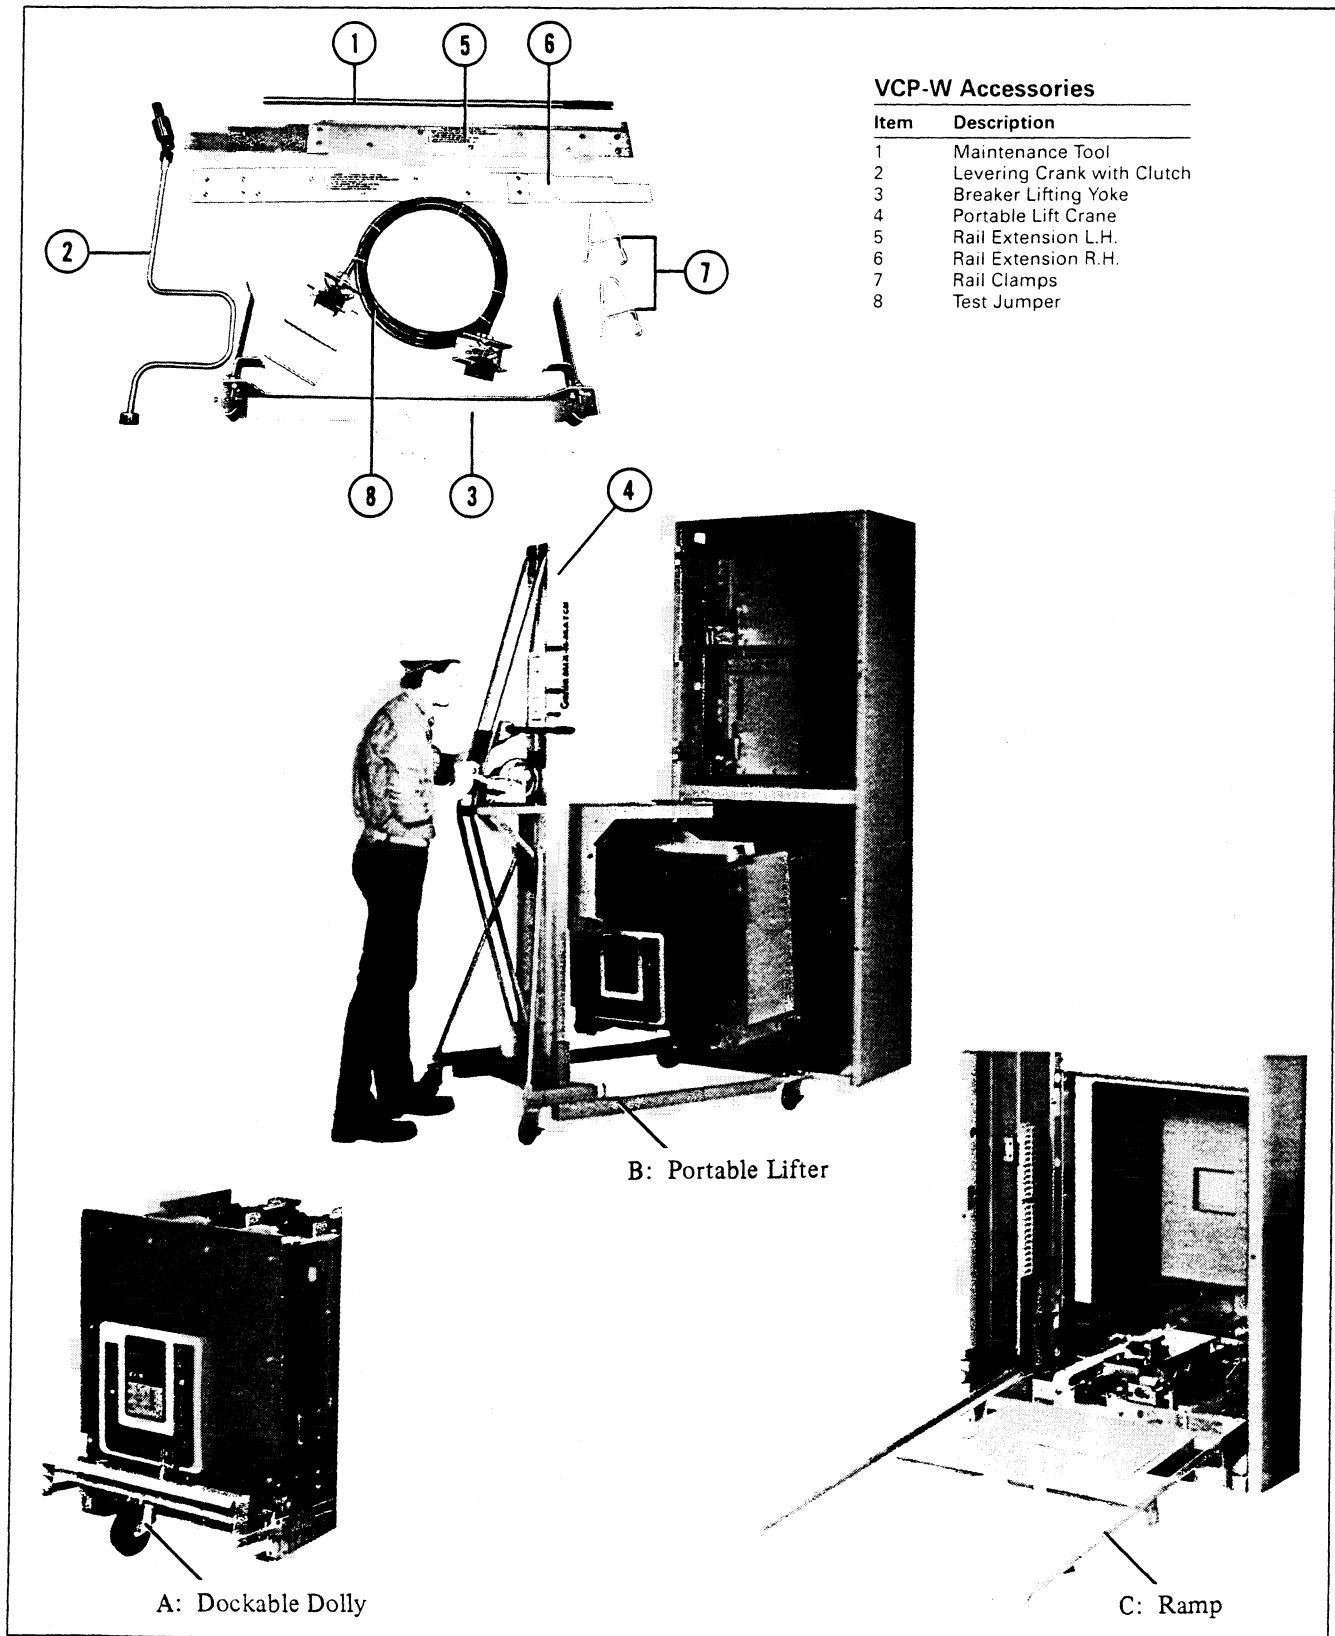

Fig. 3.1 VacClad-W Switchgear Tools and Accessories
- **BE EXTREMELY CAREFUL** while performing any maintenance, charging, closing, or tripping operations while the breaker is on the extension rails. Use rail clamps (Fig. 3-1 ⑦) to firmly hold the breaker on extension rails. Carelessness may cause the breaker to fall from the rails risking personal injury to those in the vicinity.
Dockable Dolly: Used to insert or withdraw the breaker from the lower compartment without portable lifter. The dolly also may be used to transport the breaker around. (6510C71G01, Fig. 3.1 A)
Maintenance Tool: Used to charge the closing springs manually and lift the shutter in breaker compartment. (8064A02G01, Fig. 3-1 ①)
Lifting Yoke: Used to lift the breaker. (691C607G01, Fig. 3.1 ②)
Levering Crank: Used to crank the breaker between Test and Connected positions. (Standard 701B601G02, with clutch 701B601G01, Fig. 3.1 ③)
Test Jumper: Used to operate the breaker electrically as it rests on the extended rails outside the breaker compartment or on the transport dolly. This jumper connects the breaker secondary disconnects to the compartment secondary disconnects. (6526C23G01, Fig. 3.1 ④)
Portable Lifter: Used to lift the breaker from or to the extended rails of the breaker compartment. (6366C91H01, Fig. 3.1 B)
Ramp: Used to insert or withdraw the breaker from the lower compartment without portable lifter. (7811C71G01, Fig. 3.1 C)